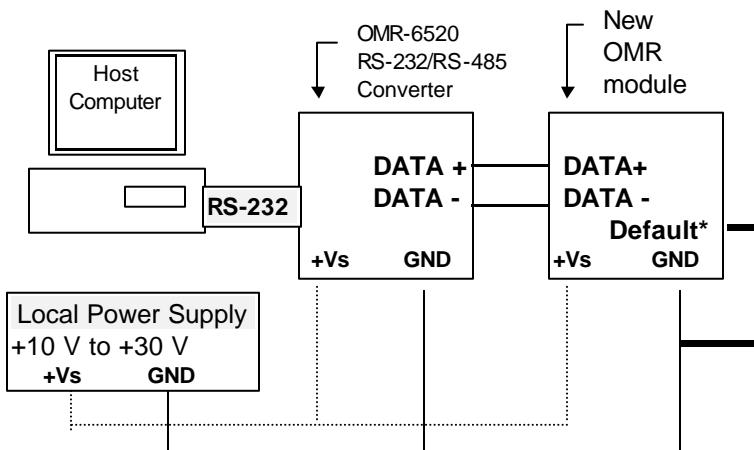

Figure 2-1 Layout for Configuring the OMR module
2. Connect a brand new OMR module with the RS-485. Set the module in *Default State* by shorting the **DEFAULT*** pin. Refer to Figure 2.1 for detailed wiring.